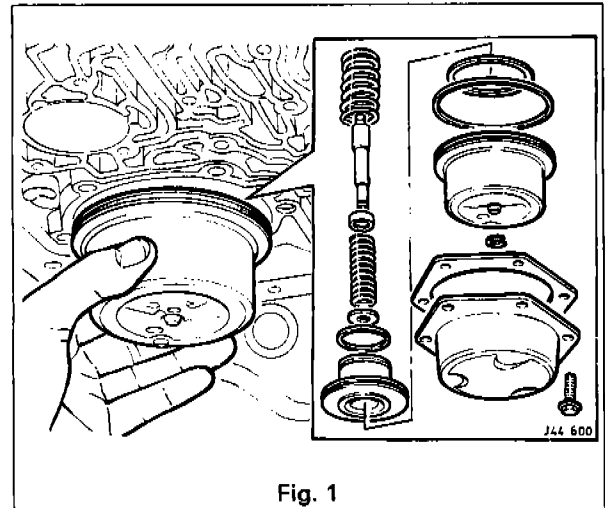

Fig. 1
- Remove rear servo piston assembly (Fig. 1) and place aside.